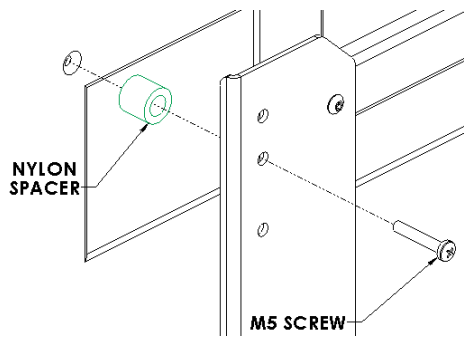
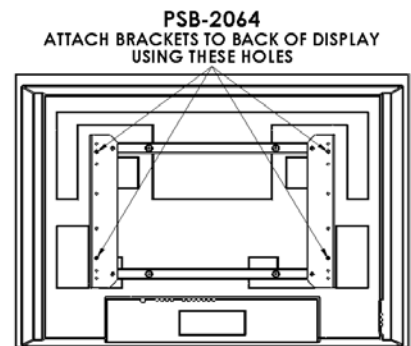

Figure 6
Figure 7a
- Place one Nylon spacers over each mounting hole on back of screen and attach the mounting brackets to the display using M5 x 30mm screws (see Figure 6 & Figure 7a, 7b or 7c). If audio connections come straight out the back, stack two nylon spacers over each mounting hole and attach brackets using the M5 x 45mm screws (you may need to connect audio cables to back of display before installing bracket).
SEE FIGURES 7a, 7b